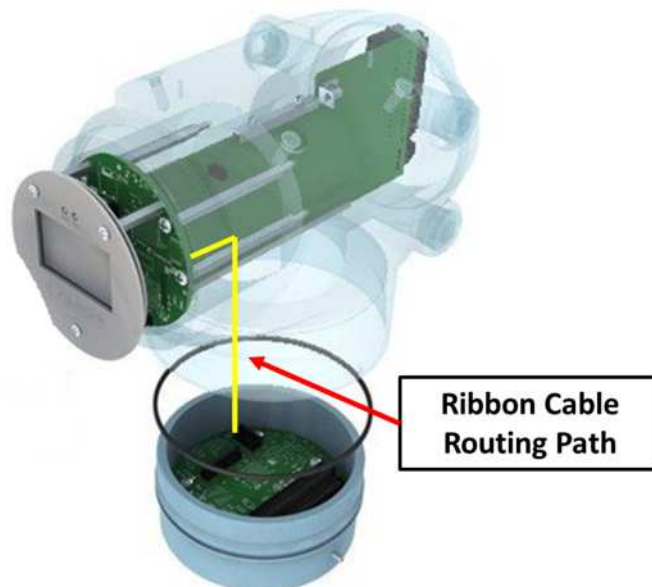

Figure 7-5 MXR-CTC Ribbon Cable Routing Path
5. Connect the ribbon cable to the back of the CTC card. Gently press the CTC assembly onto the IOP connector. Refer to Figure 7-5 below for a view of the routing path.